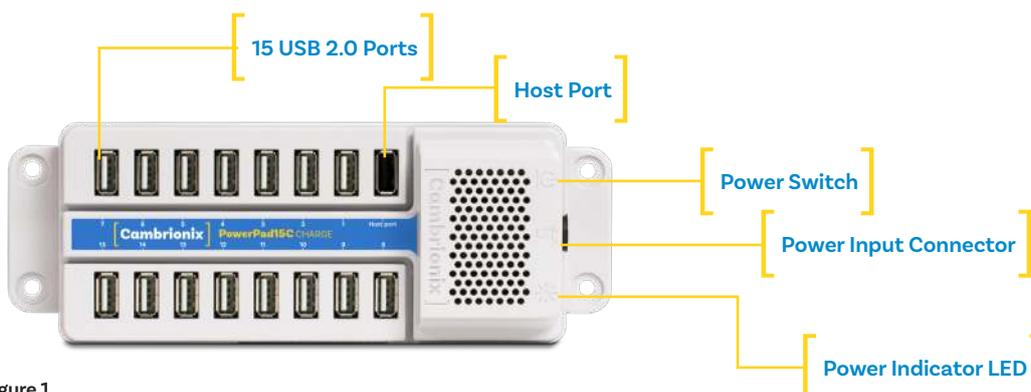

Figure 1
- The PowerPad15C unit (see Figure 1 below)